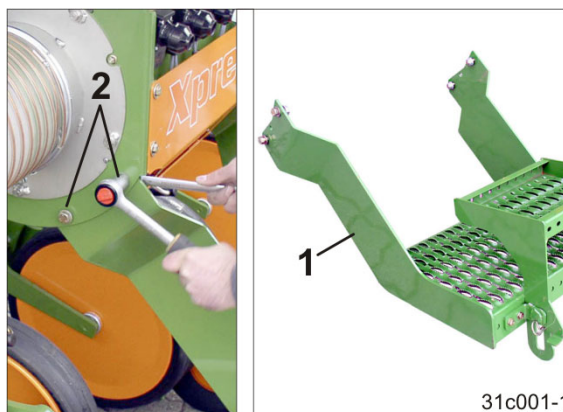

Fig. 8
2. Remove the loading boards (Fig. 8/1).
- 2.1 Each loading board is attached with 4 bolts (Fig. 8/2).
6. Fit the loading boards (Fig. 8).